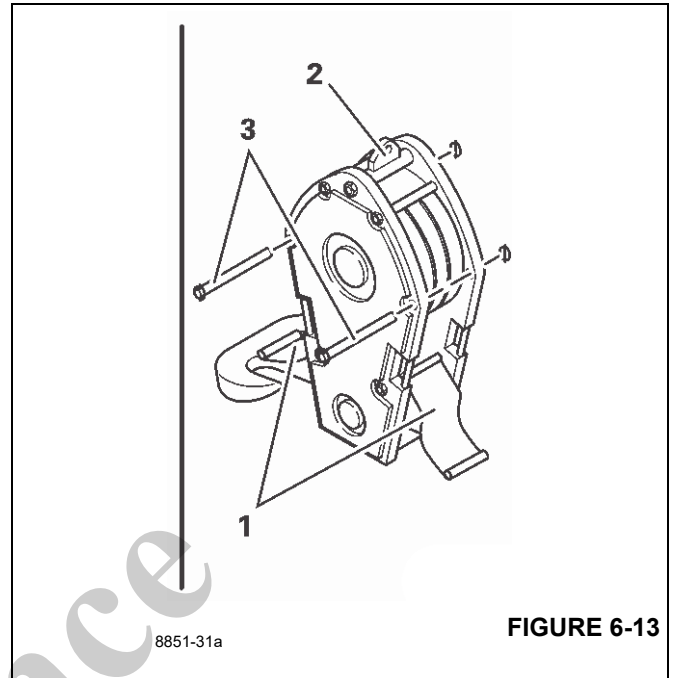

FIGURE 6-13
1. Pull out the rods (2), (Figure 6-13).
2. Fold down the plates (1), (Figure 6-13).
1. Insert the rods (1), (Figure 6-13).
1. Fold up the plates (3) on both sides (Figure 6-13).
2. Insert the rods (3), (Figure 6-13) and secure them.